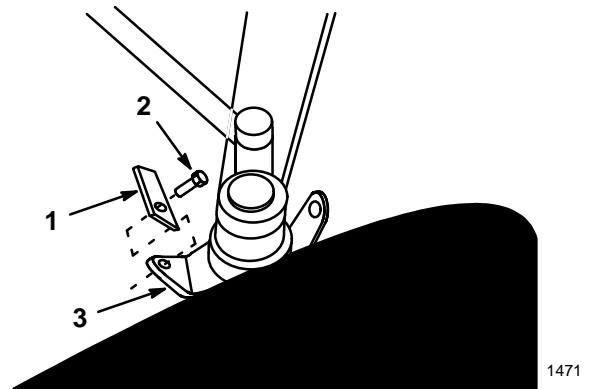

Figure 12
13. Install steering spindle stops in front of the rear tabs on front wheel spindles (Fig. 12). Align so stops contact the axle during tight turns and prevent the wheels from contacting the blade frame. Secure with 5/16 x 3/4" self tapping bolt (Fig. 12).